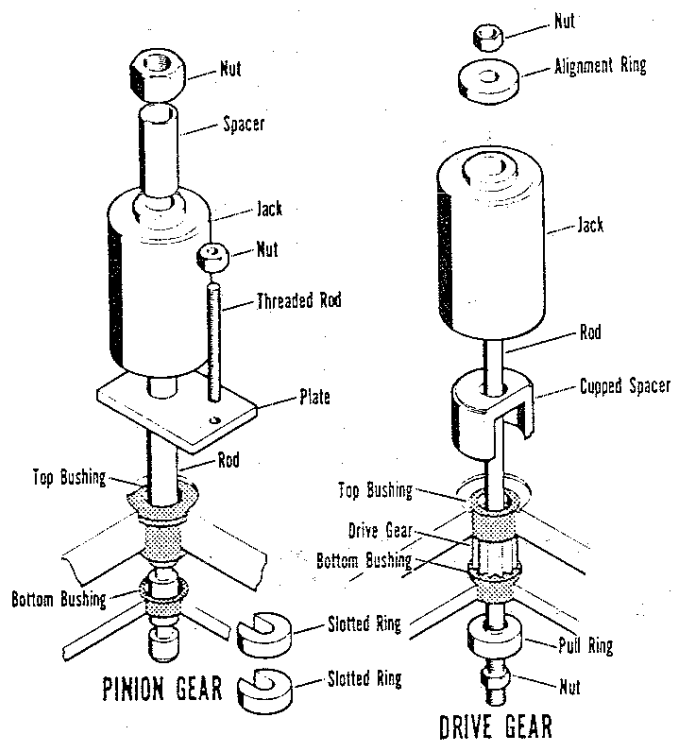

Figure G-1. BUSHING REMOVAL
5. Install the bushing removal tool (IMT part number 92091200) as shown in Figure G-1.